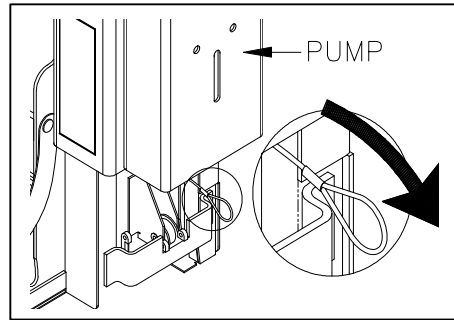

FIGURE 3-25: PULL MANUAL RELEASE CABLE
- 6) Refer to **Figure 3-25**. Pull and hold manual release cable (located below the pump on side of right column).